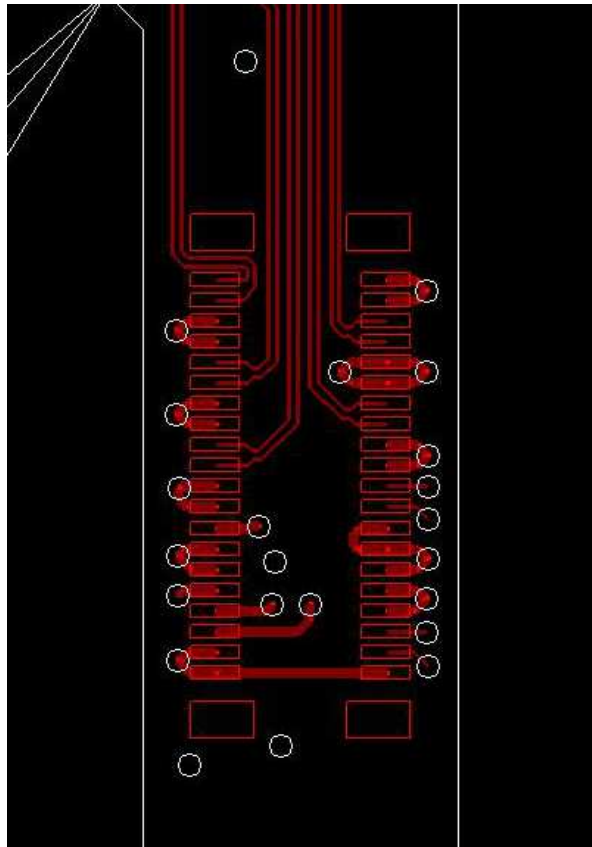

Figure 24. High-Speed (HS) Bus Connections
- Minimize vias, layer changes, and turns for the HS bus signals. Refer Figure 24.